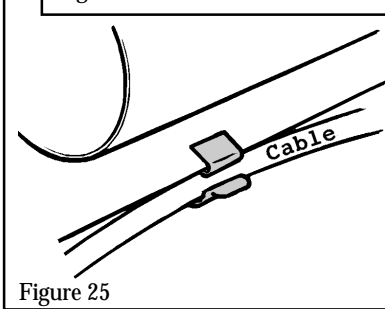

Figure 25
8.11 Further support for the fan cable (especially at corners) can be provided using the spring cable clips supplied in the pack. Fit the clips to the bottom edge of the backing plates and attach the cable (see figure 25).